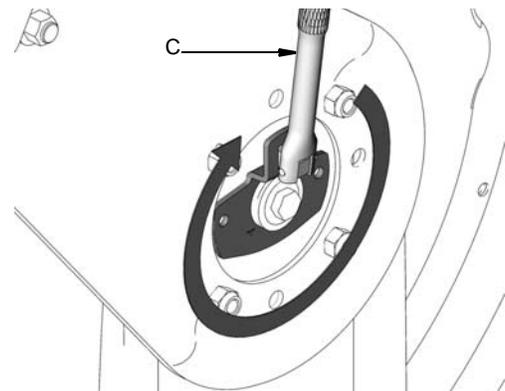

FIG. 22
4. Tighten spring by turning ratchet (C) clockwise. Refer to Table 1 to determine the number of full turns recommended for setting the spring tension for your hose reel model (FIG. 22).